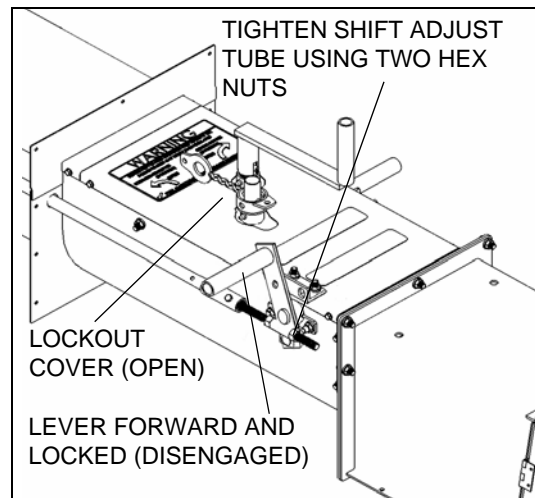

Figure 4.8
1. Once the underfloor u-trough installation is finished, close all the intermediate hopper lids completely. Flip the lockout cover over the shaft and lock out the cover to the bin plate adapter with a padlock (supplied by customer) (**Figure 4.8** and **4.12**).